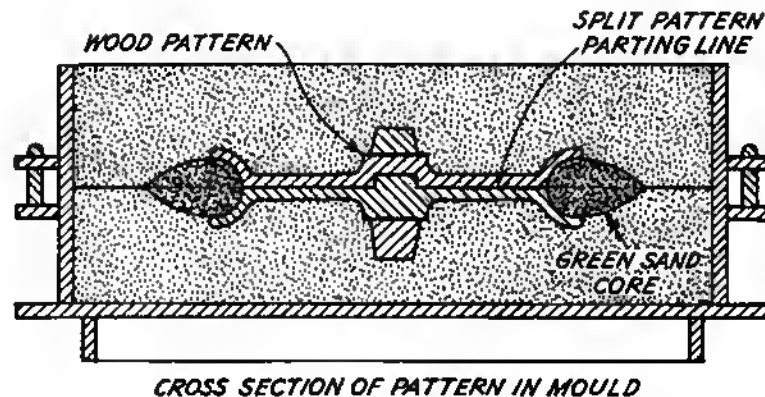

FIG. 193.
A grooved pulley (Fig. 193) may be molded in the following manner:
3. Place the cope half of the pattern on and fill in the groove, making a green sand core (Fig. 193). Dust this core well.